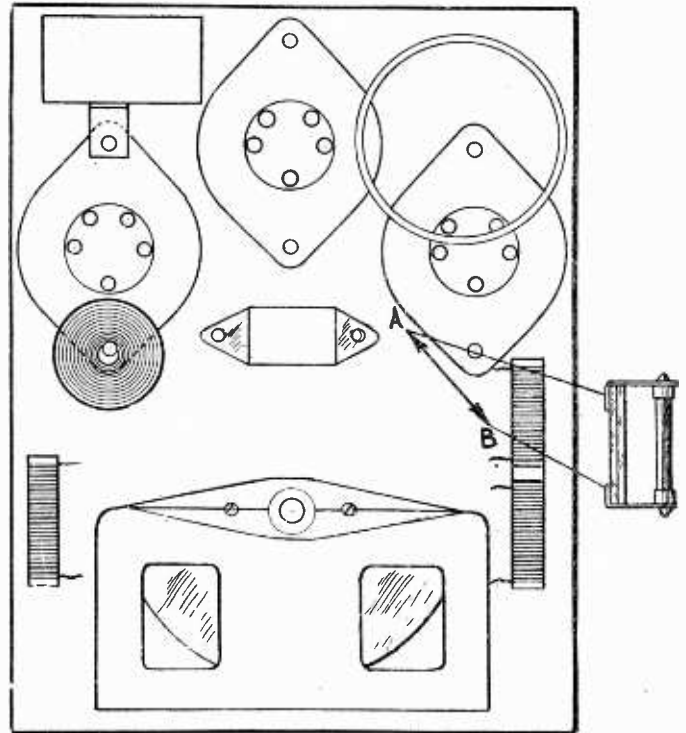

FIG. 11
*How most of the parts are arranged is shown in Fig. 11 herewith. The small radio frequency choke coils are placed as far from the top panel as possible. This places them about on the same plane as the rear frame of the tuning condenser. The object, of course, is to keep "hot" potentials away from the hand when tuning. A model was made with these chokes near the dial, and no body capacity was experienced except at wavelengths below 49 meters. However, it is just as easy to avoid body capacity down to the lowest wave that you can tune in.